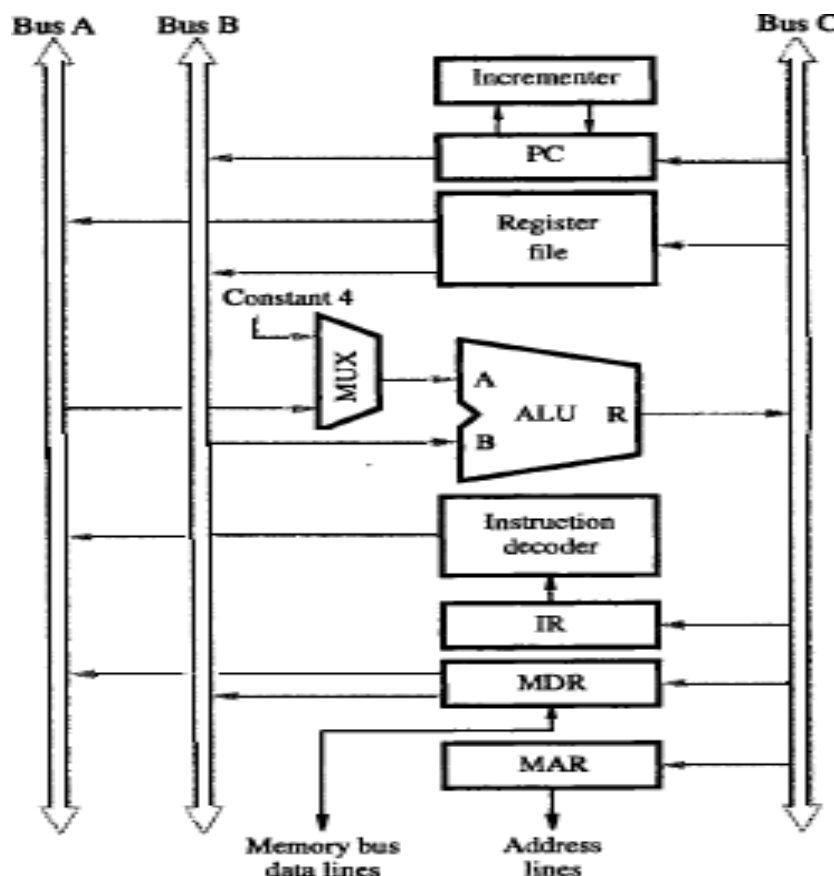

Figure 7.8 Three-bus organization of the datapath.
• As shown in fig 7.8, three buses can be used to connect registers and the ALU of the processor.